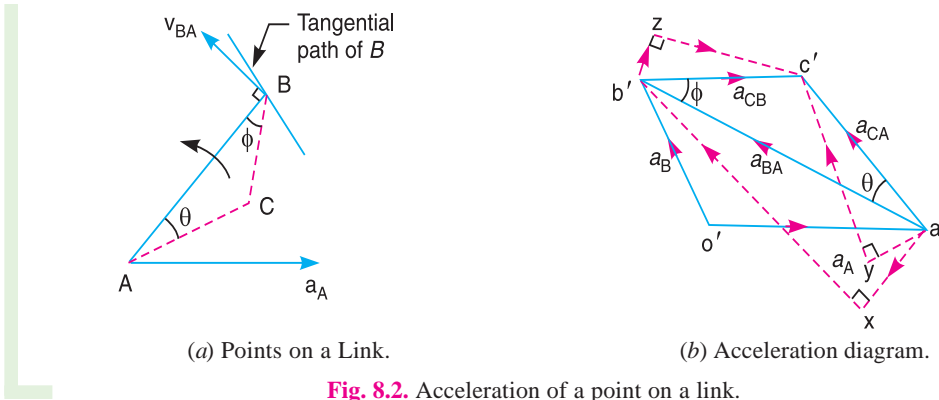

Fig. 8.2. Acceleration of a point on a link.
Consider two points  $A$  and  $B$  on the rigid link, as shown in Fig. 8.2 (a). Let the acceleration of the point  $A$  i.e.  $a_A$  is known in magnitude and direction and the direction of path of  $B$  is given. The acceleration of the point  $B$  is determined in magnitude and direction by drawing the acceleration diagram as discussed below.
1. From any point  $o'$ , draw vector  $o'a'$  parallel to the direction of absolute acceleration at point  $A$  i.e.  $a_A$ , to some suitable scale, as shown in Fig. 8.2 (b).
(i)  $a_{CB}$  has two components;  $a_{CB}^r$  and  $a_{CB}^t$  as shown by triangle  $b'zc'$  in Fig. 8.2 (b), in which  $b'z$  is parallel to  $BC$  and  $zc'$  is perpendicular to  $b'z$  or  $BC$ .
(ii)  $a_{CA}$  has two components ;  $a_{CA}^r$  and  $a_{CA}^t$  as shown by triangle  $a'yc'$  in Fig. 8.2 (b), in which  $a'y$  is parallel to  $AC$  and  $yc'$  is perpendicular to  $a'y$  or  $AC$ .